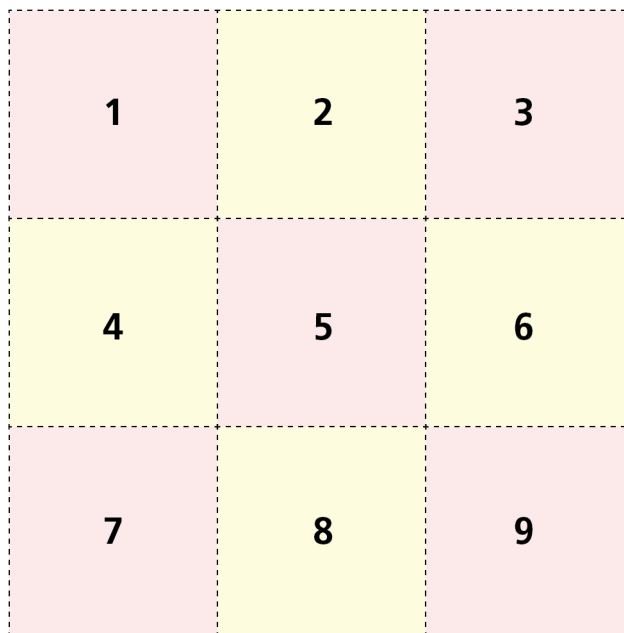
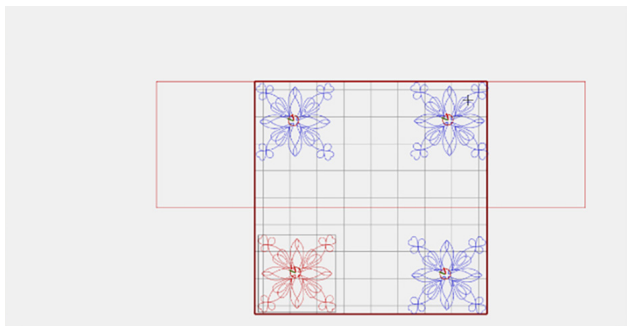

Fig. 71
Fig. 72
6. Referring to the layout (Fig. 71), place Design 1 in block areas 1, 3, 7, and 9 (Fig. 72). Don't worry about spacing—we will take care of that after all blocks are placed.